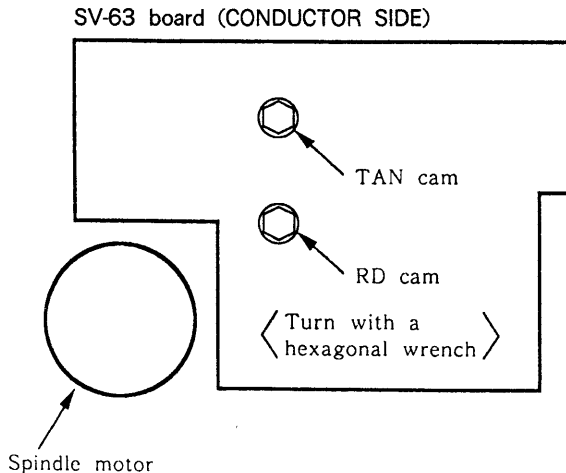

Fig. 7-10.
- 1) Turn the TAN cam on the bottom (See Fig. 7-10.) with a hexagonal wrench.